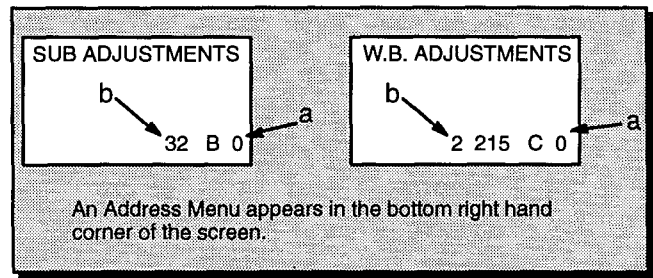

Figure 11. Serviceman Mode Menu Adjustments
Note: Only the applicable settings for the Receiver serviced will be available (see a in Figure 11).
1. Press **Channel Up/Down** on the Remote Control to select one of the 8 available Service Adjustments (a in Figure 11).
Important Note: Write down the original value set (b in Figure 11) for each address before modifying anything. It is easy to erroneously adjust the wrong item.
2. Press **Volume Up/Down** on the Remote Control to adjust the level of the selected Service Adjustment (b in Figure 11).
1. Press **Channel Up/Down** on the Remote Control to select one of the 12 available Service Adjustments (a in Figure 11).
Important Note: Write down the original value set (b in Figure 11) for each address adjustment before modifying anything. It is easy to erroneously adjust the wrong item.
1. Press **Channel Up/Down** on the Remote Control to select one of the 12 available Options Adjustments (a in Figure 11).
1. Press **Channel Up/Down** on the Remote Control to select one of the 5 available MTS Adjustments (a in Figure 11).